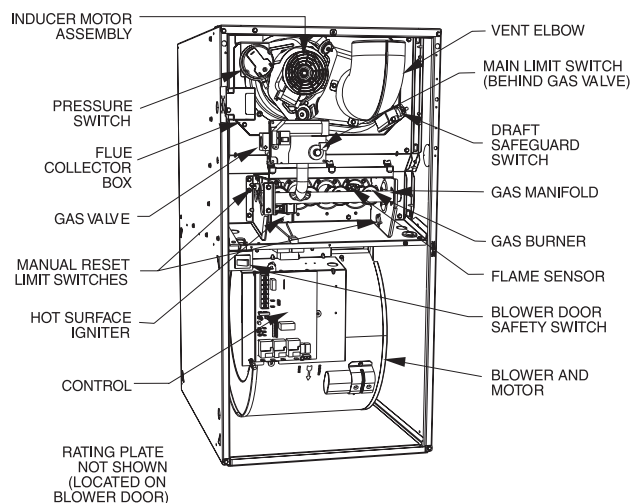

Fig. 20 - Component Location
**NOTE:** See Fig. 20 for component location in upflow orientation. Re-orient component arrangement when furnace is installed in other positions.
8. Swing out manifold from burners then pull manifold out of right side of burner box. (See Fig. 20.)